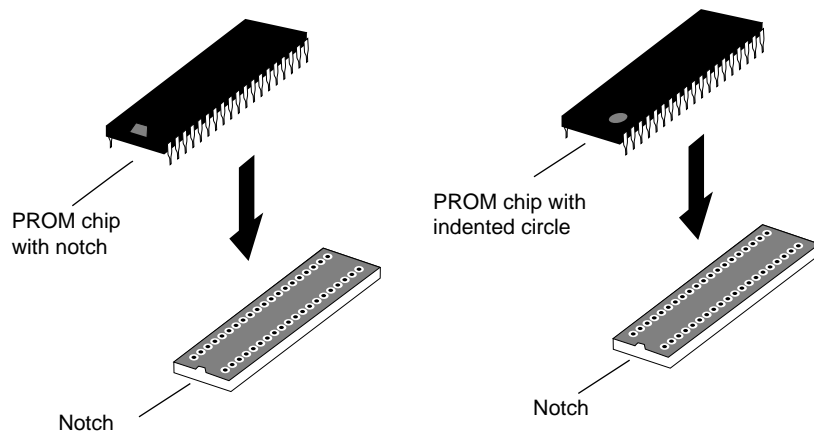

Figure 2-22 Lining Up the PROM Chip
- Grasp the new PROM chip. Orient it above the socket on the system board so the end with the semi-circular notch or small, indented circle on the PROM chip lines up with the notch in the socket. (See Figure 2-22.)